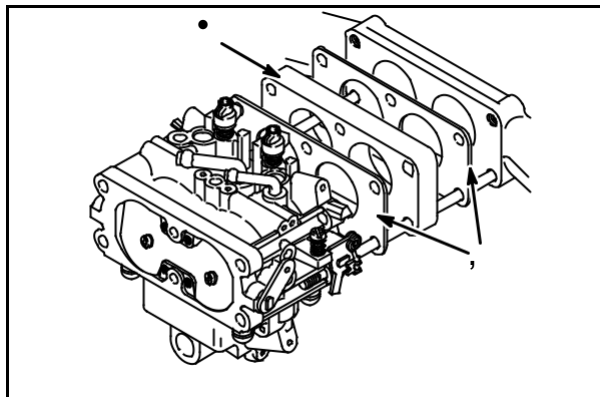

Fig. 114
Remove carburetor gaskets (2) and spacer (1), **Fig. 114**. Discard carburetor gaskets.